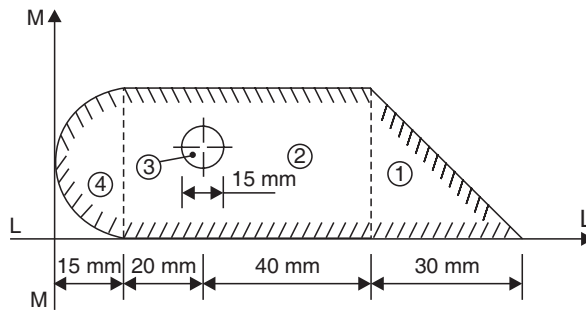

Fig. 5.29
**Example 5.9.** For the shaded area shown in Fig. 5.29, find the following :